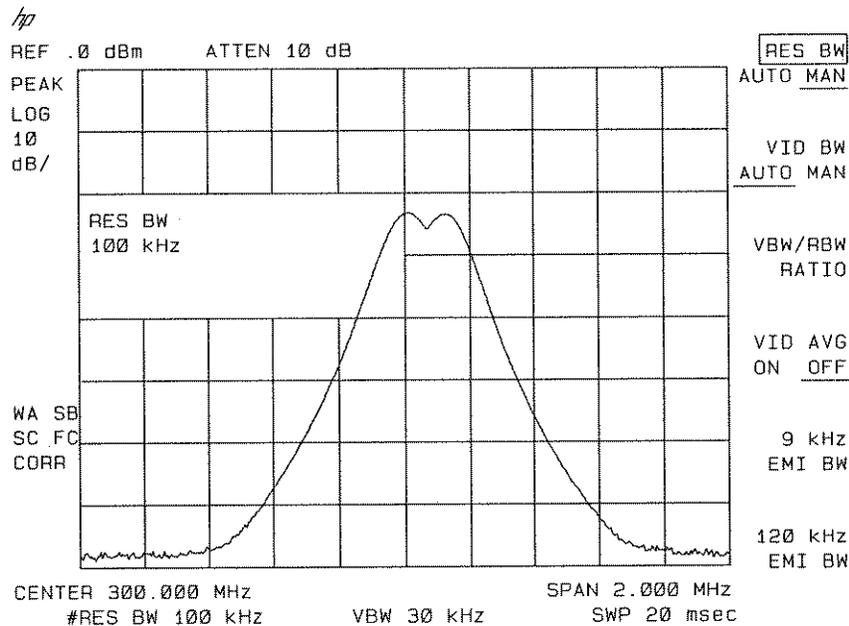

Figure 6-2. Resolving Signals of Equal Amplitude
Generally, to resolve two signals of equal amplitude, the resolution bandwidth must be less than or equal to the frequency separation of the two signals. A dip of approximately 3 dB is seen between the peaks of the two equal signals, and it is clear that more than one signal is present. See Figure 6-2.
- Since the resolution bandwidth must be less than or equal to the frequency separation of the two signals, a resolution bandwidth of 100 kHz must be used. Change the resolution bandwidth to 100 kHz. Two signals are now visible as in Figure 6-2. Use the knob or step keys to further reduce the resolution bandwidth and better resolve the signals.